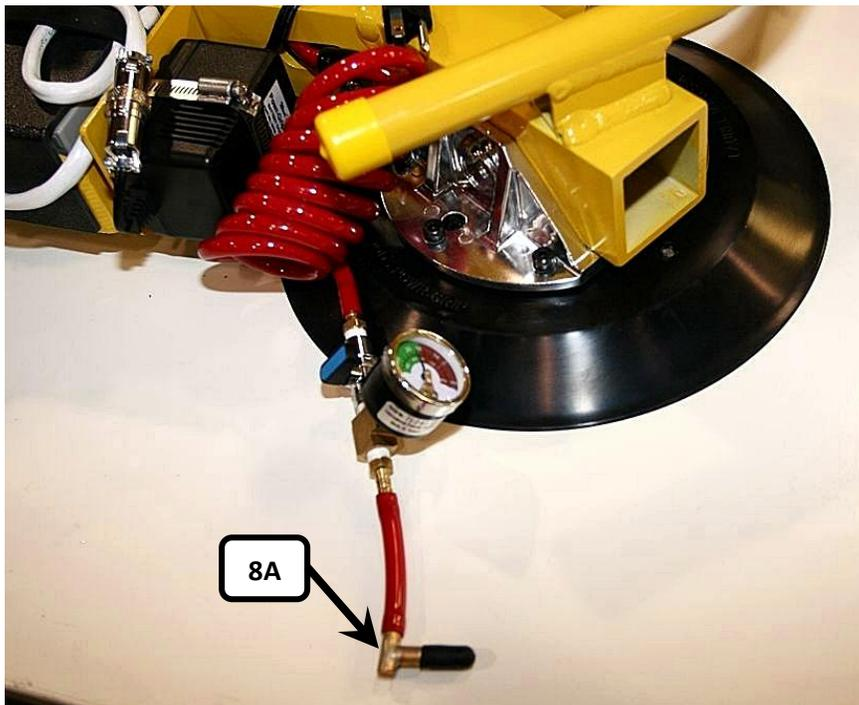

FIGURE 8
- If, after adding back one section of coiled hose, the vacuum level on the vacuum gauge starts and continues to drop, this indicates that either the coiled hose or pad fitting of the reattached assembly leak. In this circumstance remove the pad fitting (8A) from the coiled hose and, using a short piece of hose, attach the pad fitting to the end of the ball valve with the vacuum gauge. Attach the other end of the ball valve assembly to the coiled hose that the fitting was removed from. See **FIGURE 8**.
- 1) Remove the pad fitting (8A) from the hose and, using a short piece of hose, attach the fitting to the end of the ball valve with the vacuum gauge and attach the other end of the ball valve assembly to the black hose that the fitting was removed from. See **FIGURE 8** above.
Individual hoses and fittings can be tested by using the ball valve assembly and plugs in the same manner as the pad fittings were shown being tested in **FIGURE 8**.